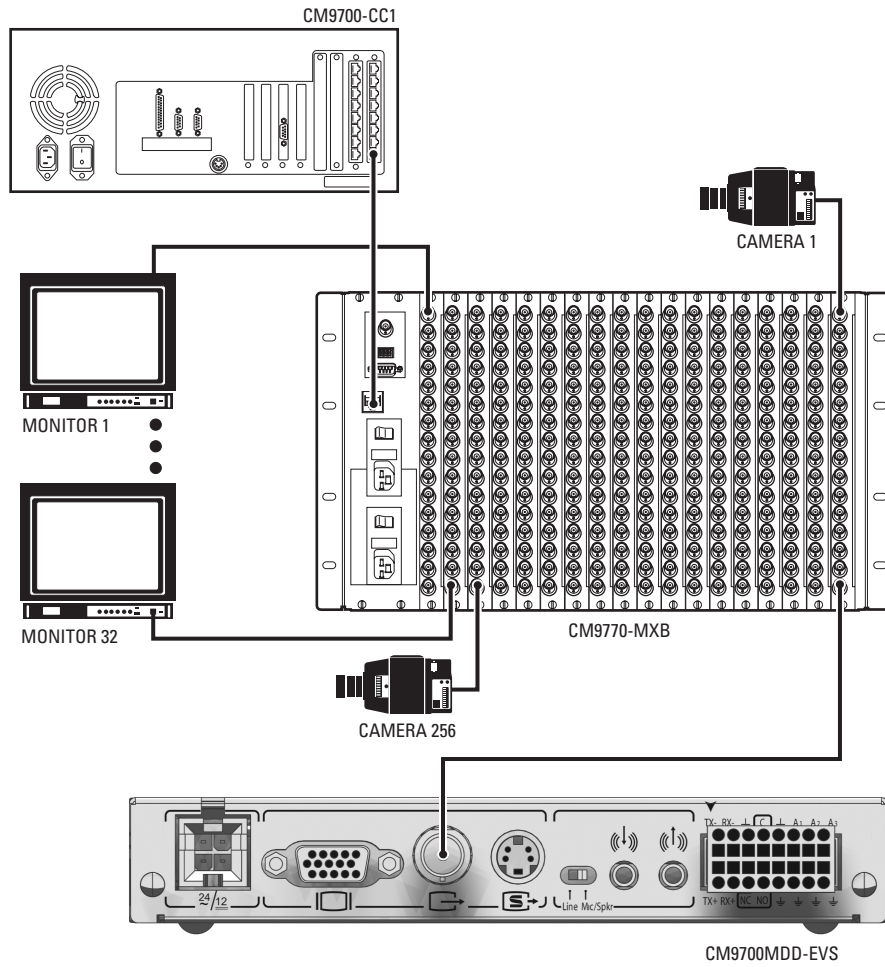

Figure 14. Sample Video Connection Between the CM9700MDD-EVS and the CM9770-MXB
- In a System 9770, video input connectors are on the CM9770-MXB rear panel, as shown in Figure 14.
NOTE: Figure 14 illustrates a sample video connection. Video from the CM9700MDD-EVS can be connected to any unused input on the matrix bay.